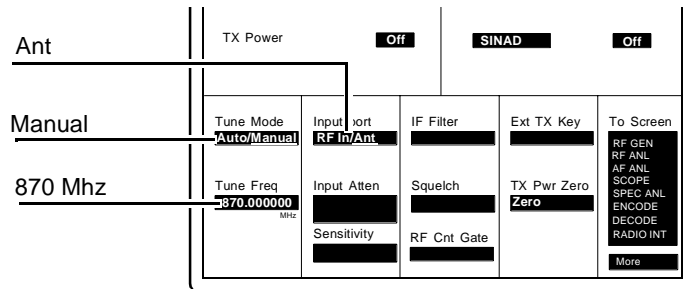

Figure 71 RF ANALYZER Screen
- a. Select the **RF ANL** from the **To Screen** menu. The RF ANALYZER screen appears, see figure 71.